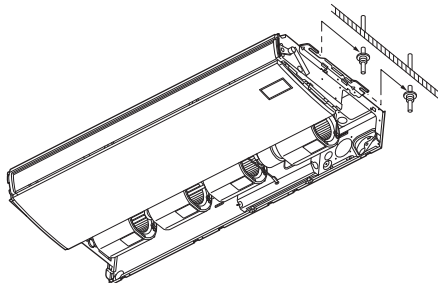

Fig. 3-25
b) Lift the indoor unit, and place it on the washers through the notches, in order to fix it in place. (Fig. 3-25)